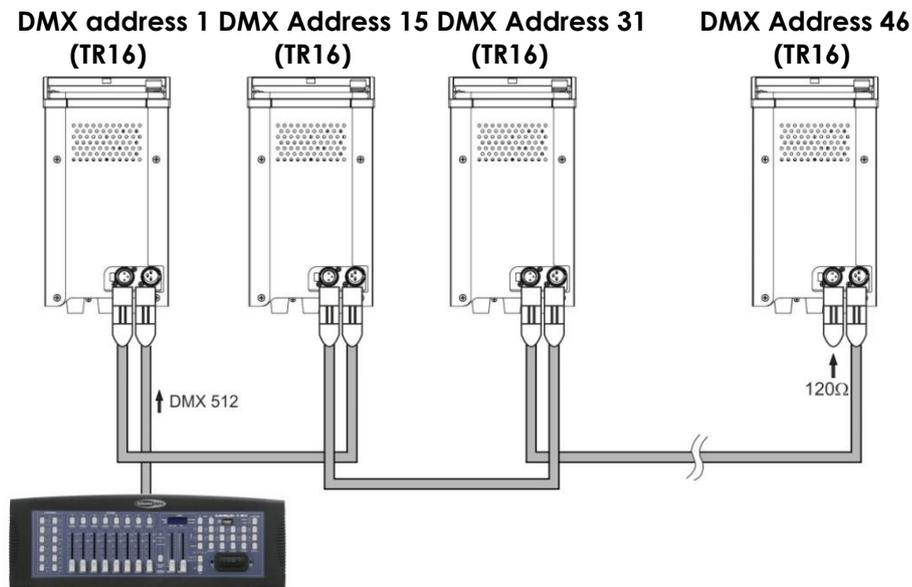

Fig. 7
1. Link the units as shown in (figure 7), Connect a DMX signal cable from the first unit's DMX "out" socket to the second unit's "in" socket. Repeat this process to link the second, third, and fourth units.